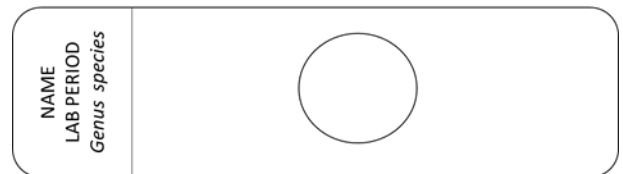

Figure 5.1: A properly labeled slide.
- ☐ Using a wax pencil, label your slides as shown in Figure 5.1. *Draw one circle on the bottom/underside of the slide.*